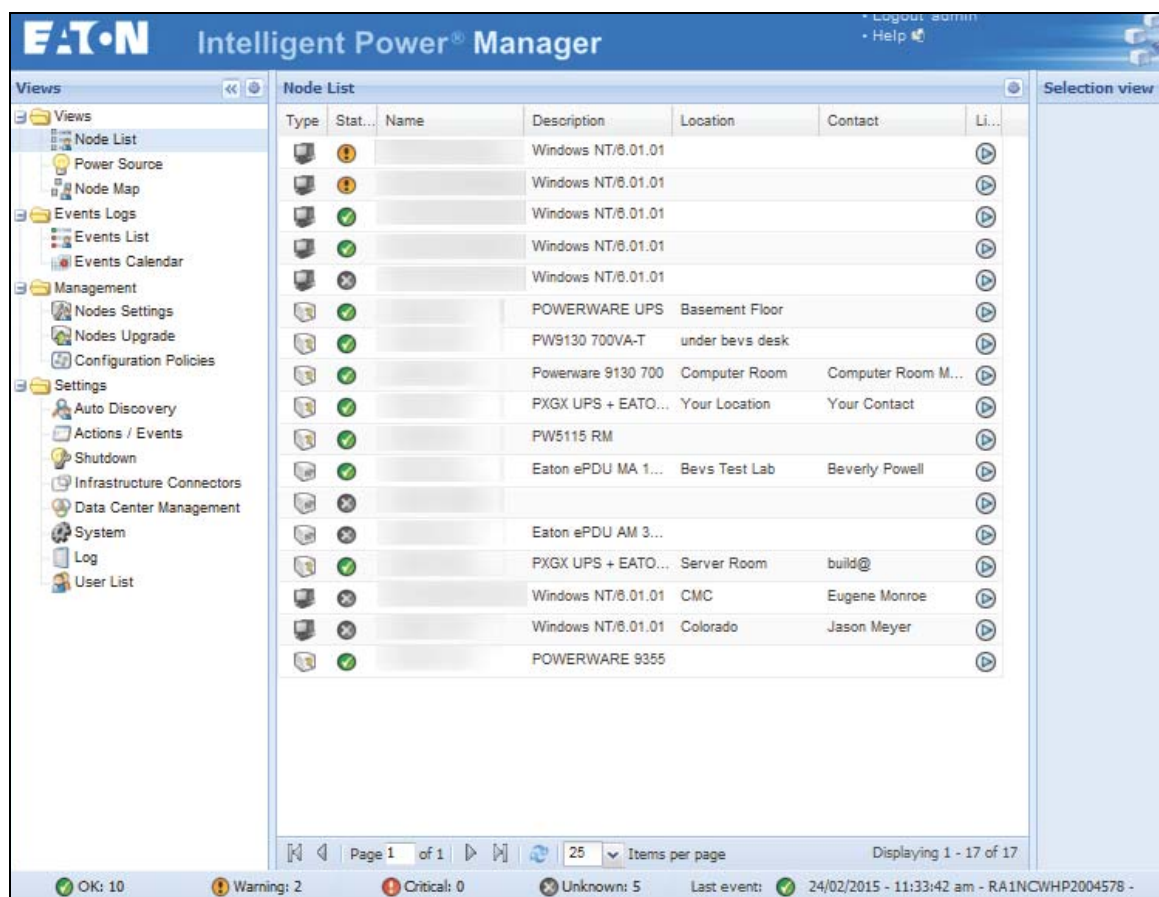

Figure 7. Node List Main Page
2. Select a line in the list and the panels are updated with selected device information (see Figure 7).